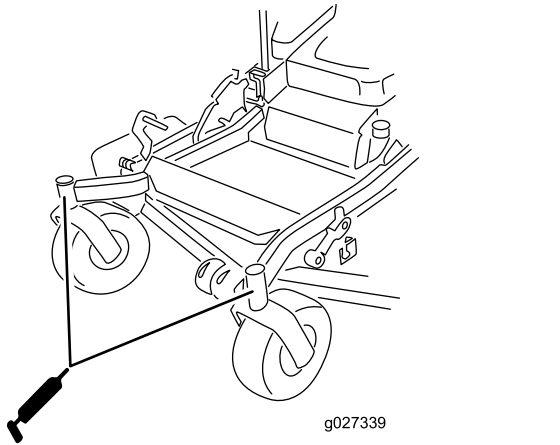

Figure 39
10. Install the hex plug and dust cap (Figure 39).